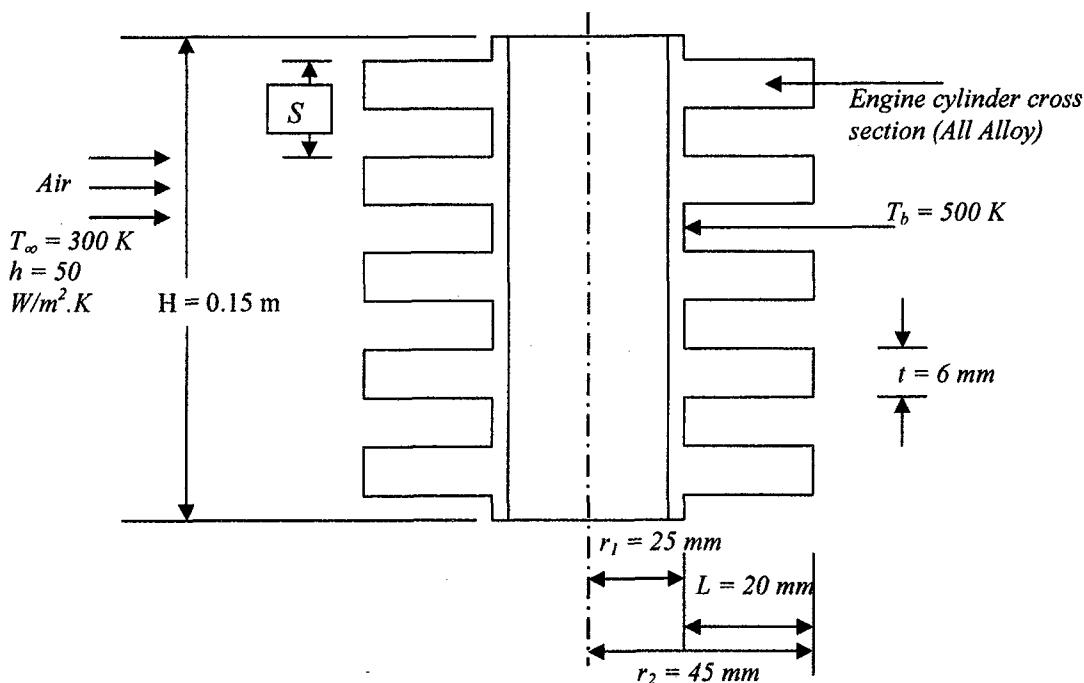

Figure Q.2.1
2. The engine cylinder of a water pump is constructed of aluminum alloy and is of height $H = 0.15 \text{ m}$ and outside diameter $D = 50 \text{ mm}$ as shown in Figure Q.2.1. below. Under typical operating conditions, the outer surface of the cylinder is at temperature of 500 K and is exposed to ambient air at 300 K , with a convection coefficient of $50 \text{ W/m}^2\text{.K}$. Annular fins are integrally cast with the cylinder to increase heat transfer to the surroundings. Consider five such fins, which are of thickness $t = 6 \text{ mm}$, length $L = 20 \text{ mm}$ and equally spaced. Thermal conductivity for the aluminum alloy at 400 K is 186 W/m.K .